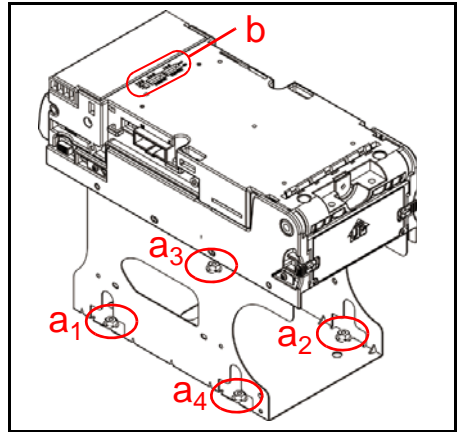

Figure 3 M4 Nut and DIP Switch Locations
2. Bolt the bottom of the VEGA Frame into place using four (4) M4 Hex-nuts (See Figure 3 a₁, a₂, a₃ & a₄).